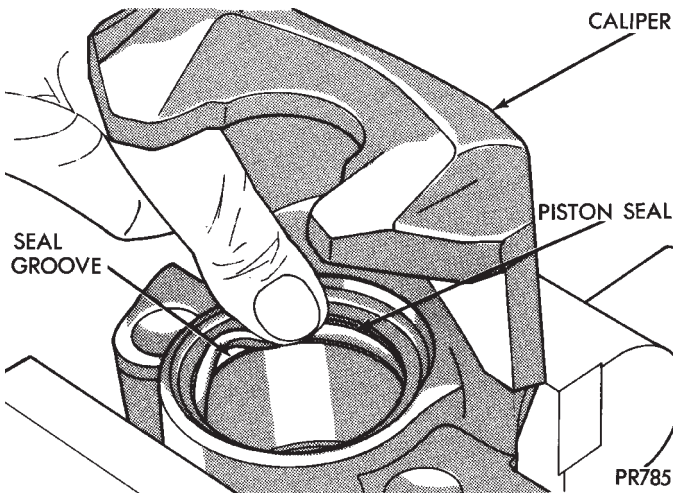

Fig. 87 Installing New Piston Seal In Caliper
(1) Clamp caliper in a vise (with protective caps installed on jaws of vise).
(2) Dip new piston seal in clean brake fluid and install in the groove of the caliper bore. Seal should be positioned at one area in groove and gently worked around the groove (Fig. 87), using only your fingers until properly seated. **NEVER USE AN OLD PISTON SEAL.** Be sure that fingers are clean and seal is not twisted or rolled (Fig. 87).
(3) Coat new piston boot with clean brake fluid leaving a generous amount inside boot.
(4) Position dust boot over piston after coating with brake fluid.